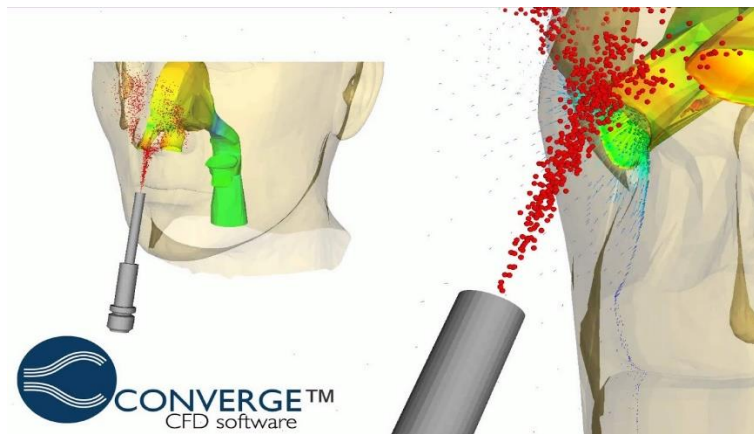

Figure 2
3. Drug Delivery Systems: Optimization of aerosols and implantable drug delivery devices, figure 2.